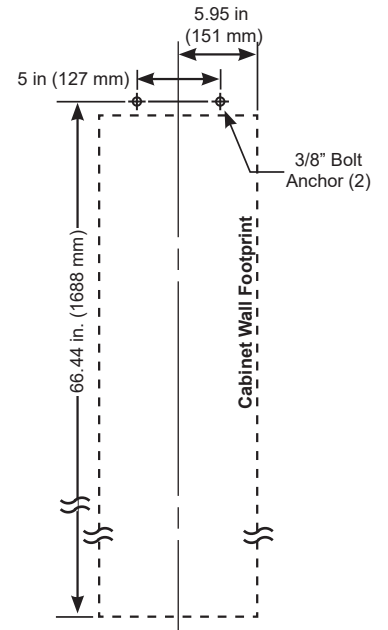

FIGURE 7.2: SEISMIC ANCHORAGE - WALL PATTERN
1. Prepare the wall anchorages. Key measurements off the final installation location. (Figure 7.2)
2. Control Wiring – 208VAC control power should be supplied from MBS (2-wire, 208VAC). See **Figure 7.2**.